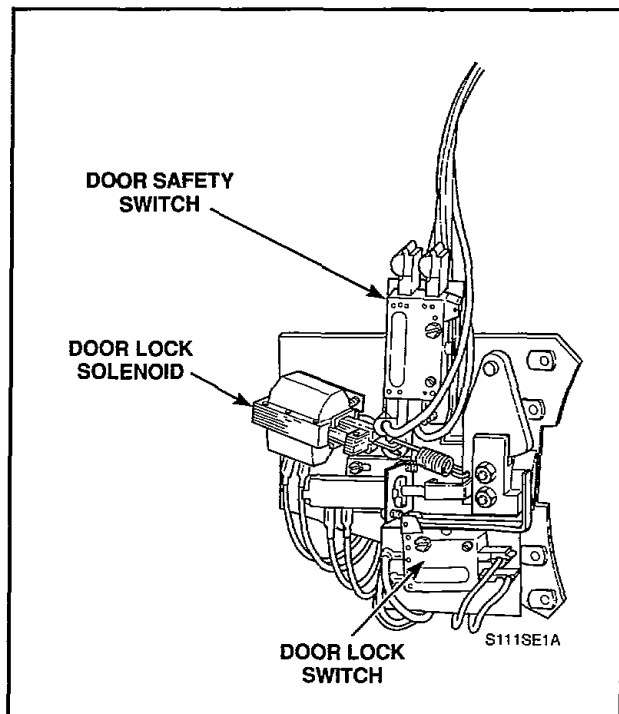

Figure 55
43. DOOR LOCK ASSEMBLY (Refer to Figure 55)